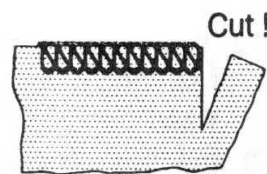

Fig. 2
Attach the two-thread convertor onto the upper looper as shown in Fig. 2, Fig.3.
Turn it toward "7" if loops hang off the edge. (Fig.2)
NOTE: When overlocking and trimming at the same time, cut the fabric along the new stitching line for about 3 cm, before turning the fabric. Fig. 2.
3. Insert the cord through either the front or rear hole (according to the operation, see diagrams Figures 2 and 3), in the presser foot and pass it under and to the rear of the foot.
FOR JOINING SHOULDERS OR SLEEVES, pass the cord through the front hole, ensuring that it is fixed between the left and right needle threads as it is guided through the front hole. (Fig.2).